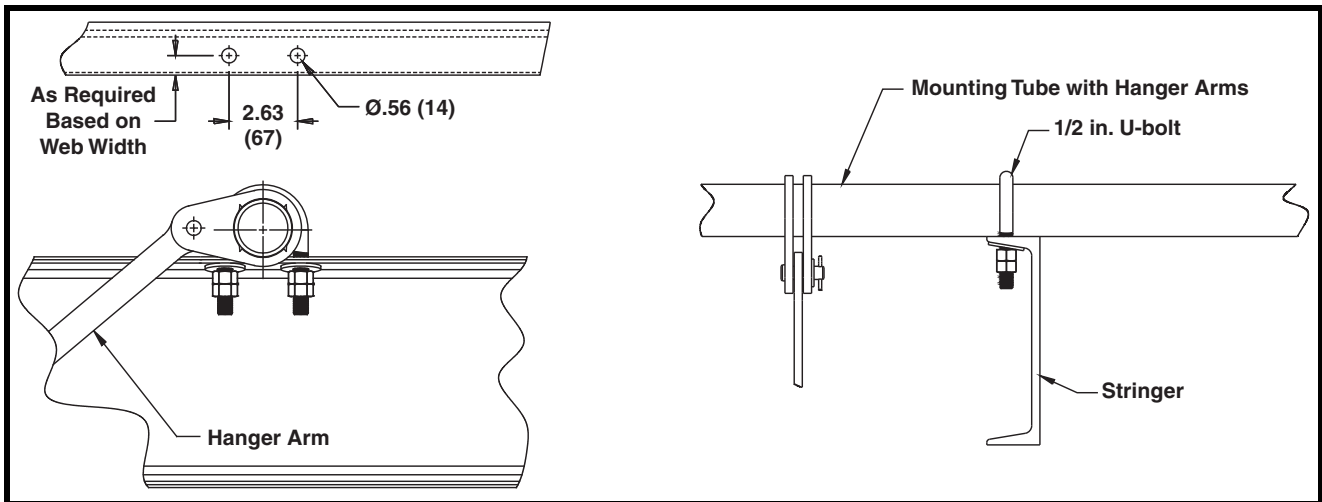

Figure 4. Installing Mounting Tubes
- a. If the stringers can accommodate the hanger bars in the proper position, hanger bars can be mounted directly to the stringers. See Figure 4.